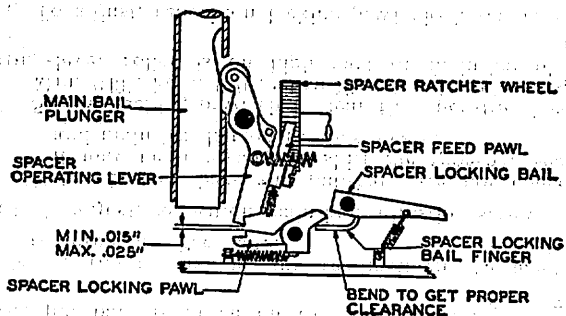

Fig. 11
3.18 **Spacer locking-pawl** shall clear spacer operating-lever by Min. .015", Max. .025" when the locking-pawl is in its unoperated position (so as not to prevent spacing). **Fig. 11**